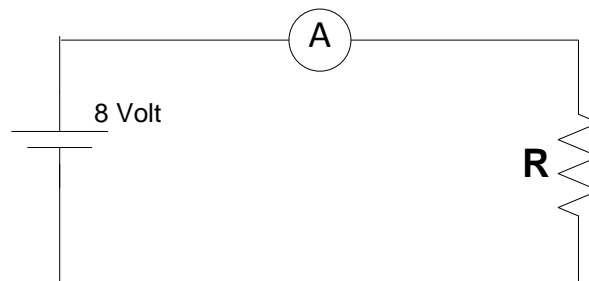

Fig. 4.
- 1- Connect the circuit as shown in Fig.4.